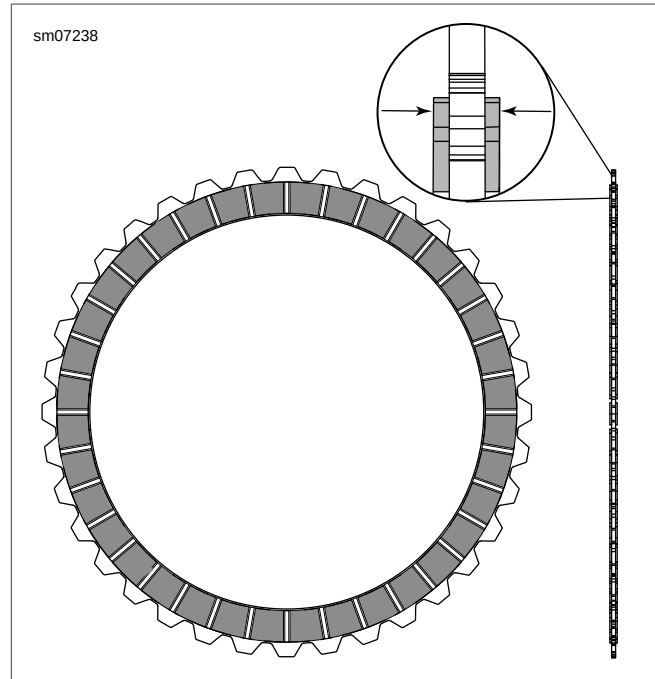

Figure 5-22. Friction Plate Thickness
2. See Figure 5-22. Inspect each friction plate.